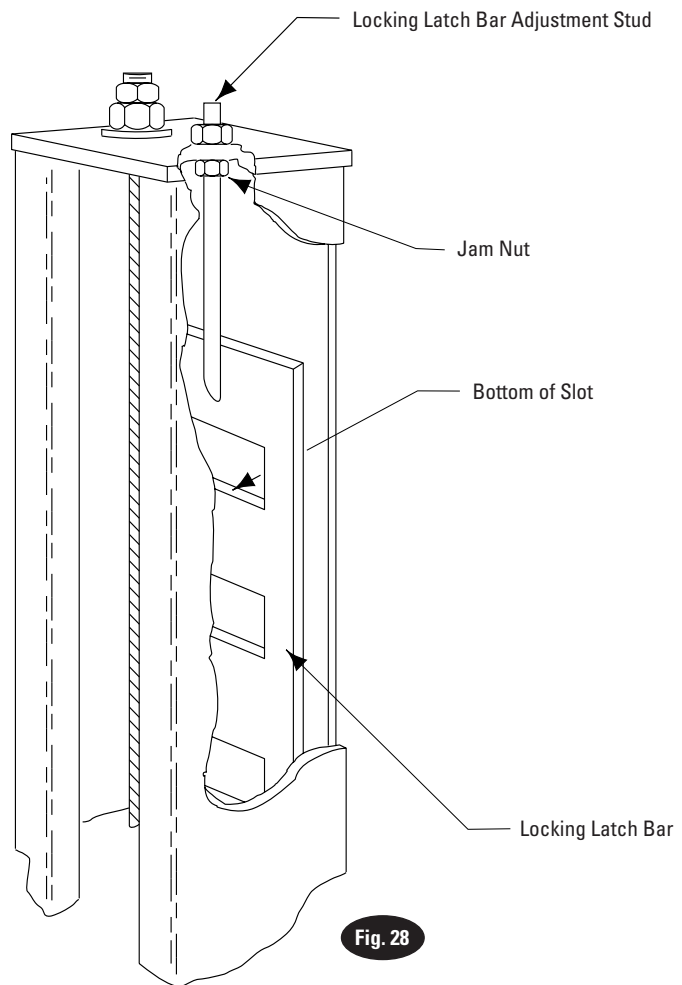

Fig. 28
3. Adjust locking latch bar adjusting nut so that the bottom of the topmost latch bar slot is at least 2" (51mm) below locking latch, Fig. 28. After adjustment, tighten jam nut underneath column top plate, Fig. 28.